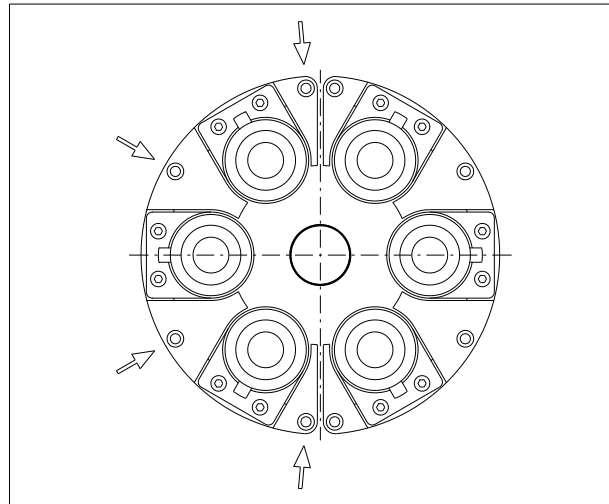

Figure 4
7. Mount the second mounting bracket as explained in point 5 (Figure 4).